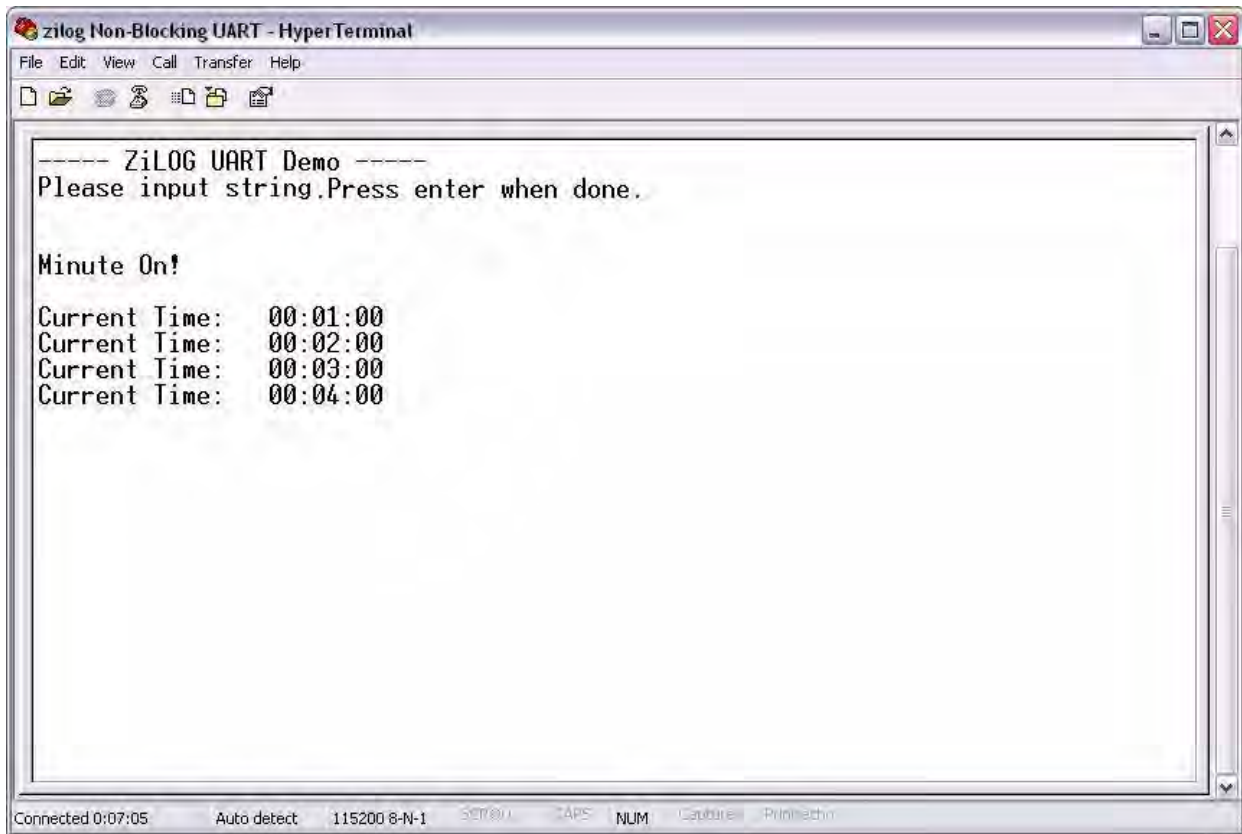

Figure 16. The Running Time at One-Minute Intervals
16. Over the course of the next few minutes, the running time will appear in one-minute intervals in the HyperTerminal window, as shown in Figure 16.